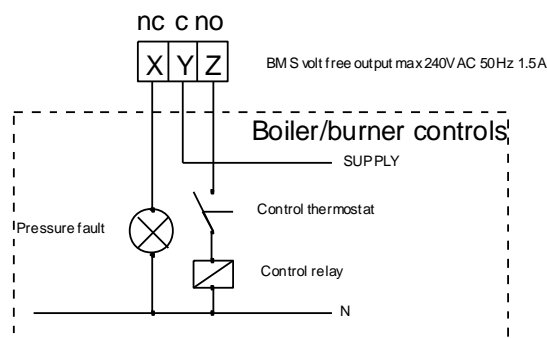

Fig 1.6 Typical Boiler Interrupt Circuit (wiring by others)
- 1.3.6.4 Make any BMS connections required to terminals A-Z on Interface card inside control panel. Connect boiler/chiller terminals nos. X,Y,Z on interface card in series with the boiler/chiller control circuits so that in the event of a fault condition occurring the boiler/chillers shut down and remain inoperative until the fault condition is rectified. A typical arrangement is shown in fig 1.6.